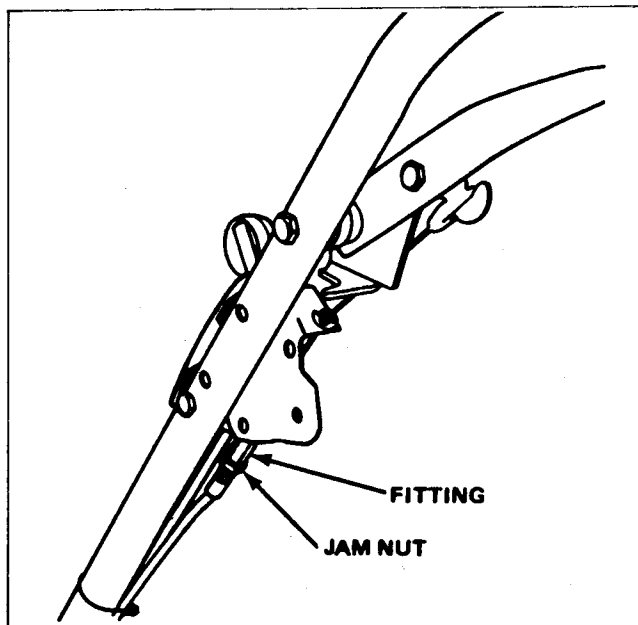

Figure 6
3. Loosen the jam nut on the cable adjuster and rotate the fitting up or down to achieve the correct distance between the control bar and the handle. See Figure 6.